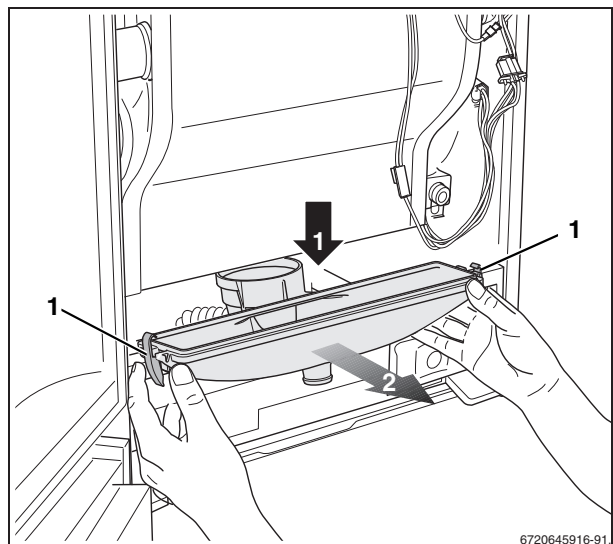

Fig. 90 Removing the condensate collector
- Open the 2 clamps on the right and left at the bottom of the condensate collector (fig. 90, [1])
- Pull the condensate collector down (fig. 90, [1]) and remove it by pulling it towards you (fig. 90, [2]).